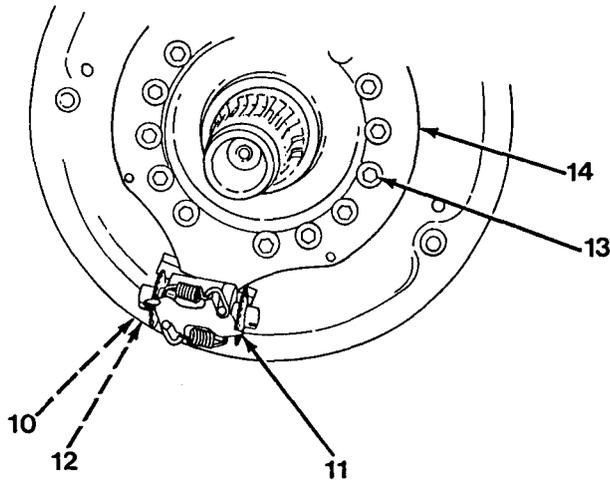

Figure 12-2
11. With brake centered, torque bolt (10, Figure 12-2) to 60 lb-ft (82 N•m).